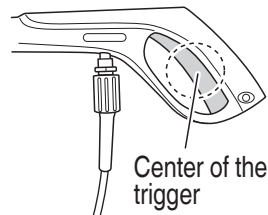

Fig. 18
- Place your finger in the center of the trigger during operations (Fig. 18)